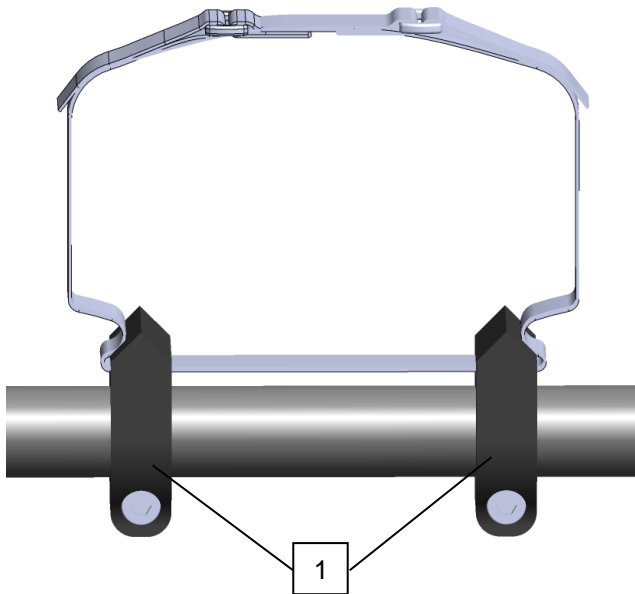

Fig. 5.2.2-1: Bracket for control unit
- Place the control unit (pos. 2) on the brackets (pos. 1) as shown in Fig. 5.2.2-2.